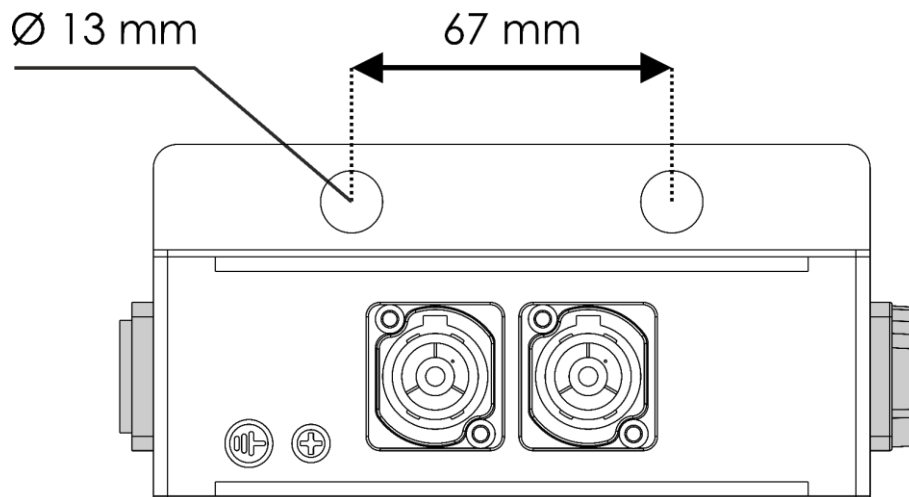

Fig. 04
- 01) Insert 2 screws into the **2 x mounting openings (05)** and tighten them to mount the device on a structure. See Fig. 04.